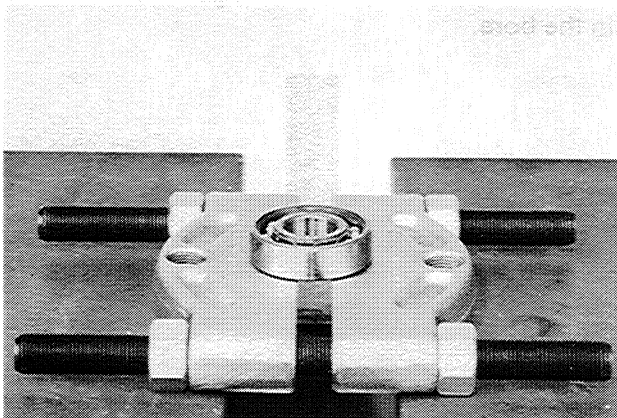

Figure 73
4. Put clean oil on the inner surface of the new ball bearing. Put the new ball bearing on the tool as shown in Figure 73. Make sure that the tool supports the inner race of the ball bearing.